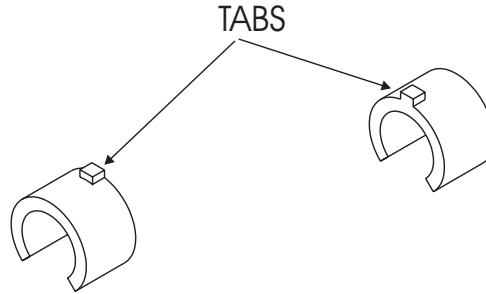

Figure 5-17. Carriage Bushing Installation.
5. Orient the new Bushing as shown in Figure 5-17 so that the metal tab on top of the Bushing goes into the Carriage Assembly first.